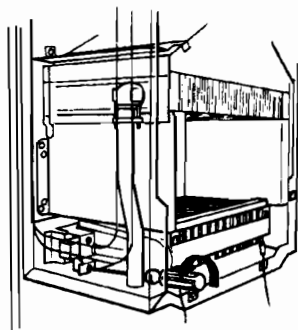

Fig. 30
- 8.6.4** Remove four burner retaining screws (see fig 30) ease burner forward and rest on chamber base.